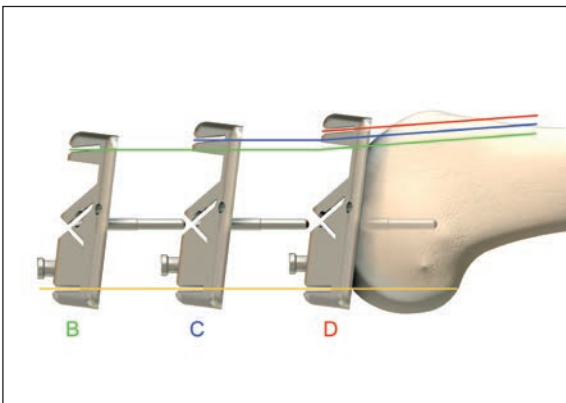

Fig. 18 Adjusting the femoral size by changing the Cutting Block
*The size increase of the balanSys Femoral Components, viewed from posterior to anterior, is **3mm** for each of sizes XS to E and **4mm** for sizes E to F. The distance between the two posterior resections and the bores for receiving the 4in1 Cutting Block remains the same for all sizes. The resulting flexion gap will thus be of the same width for all sizes. This corresponds to the principle of posterior femoral referencing (Fig. 18).*